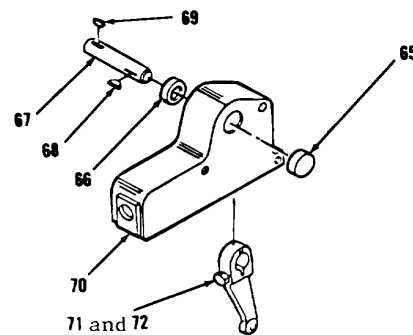

Figure 3-162.
56. Inspect bearings (65 and 66, Figure 3-162). Replace if cracked, broken or worn.
57. Using suitable driver and hammer, remove bearings (65 and 66), if necessary, from housing (70).